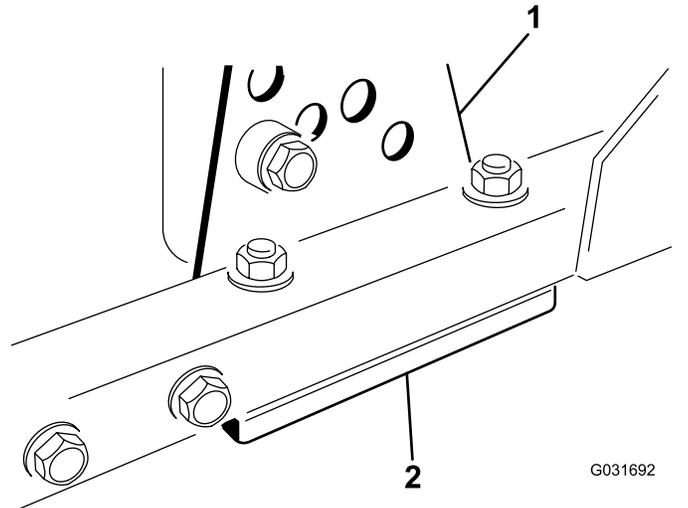

Figure 100
1. Remove the height-of-cut bracket (front, left, or right) from the deck frame (Figure 100).
2. Adjust 1.5 mm (0.060 inch) shims and/or 0.7 mm (0.030 inch) shim between the deck frame and bracket to achieve the desired height setting (Figure 100).